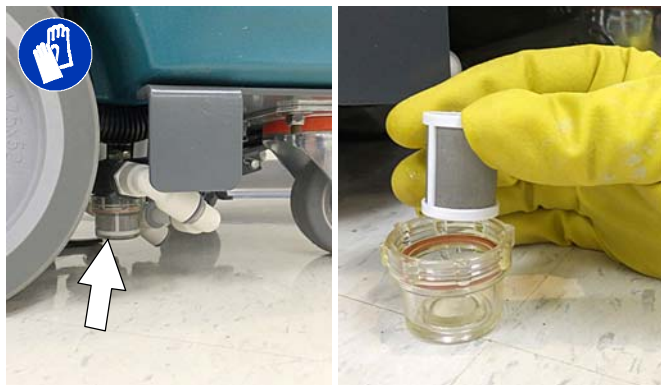

FIG. 111
1. Drain solution tank. Remove the solution tank filter and clean screen (Figure 111). Turn the filter bowl counter-clockwise to remove.